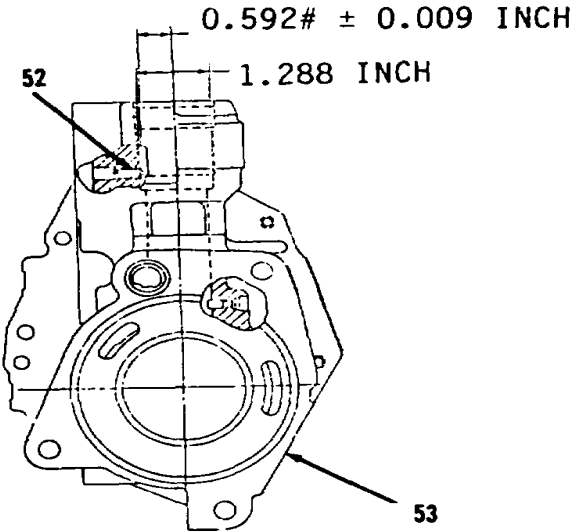

Figure 3-93.
1. Using suitable driver and hammer, carefully install and tap four dowels (52) into position in housing (53, Figure 3-93). Dowels (52) must be installed extending beyond cylinder wall to dimensions.